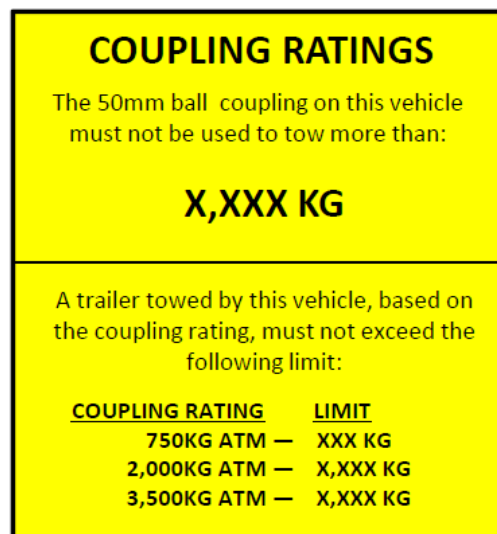

Figure 2: Example coupling limit plate/label
- Fit a plate similar to Figure 2 below.